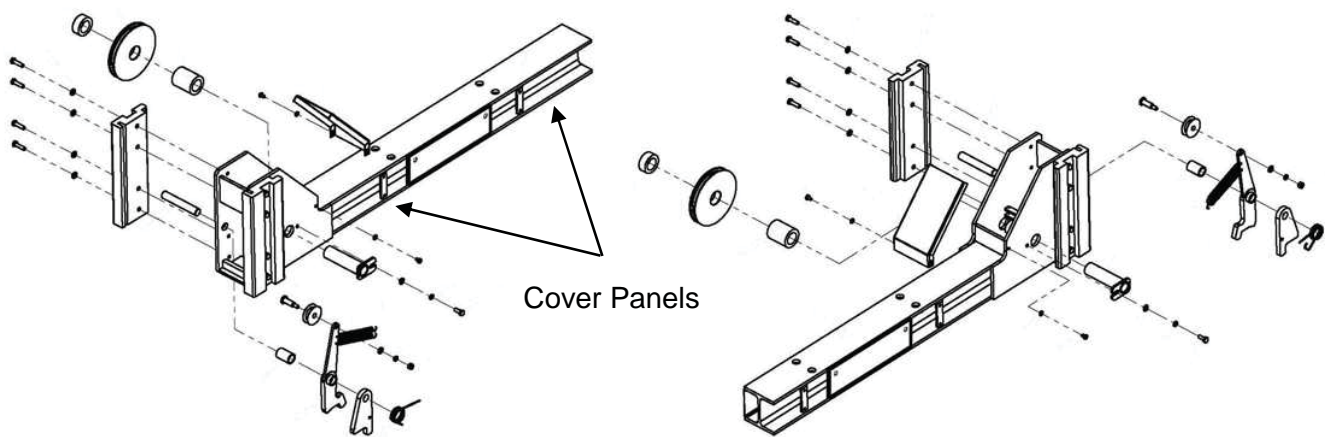

Fig 3
8. Unpack the Crossbeams, Cover panels, Ramps, Drip Trays, Jack Tray, Lock Ladders and Caster Kit from the lower Sub Runway (#2). Remove the linkage rod Cover Panels (#68, #69, #70 & #71) (Fig. 3) if not already removed. They will be reinstalled later.